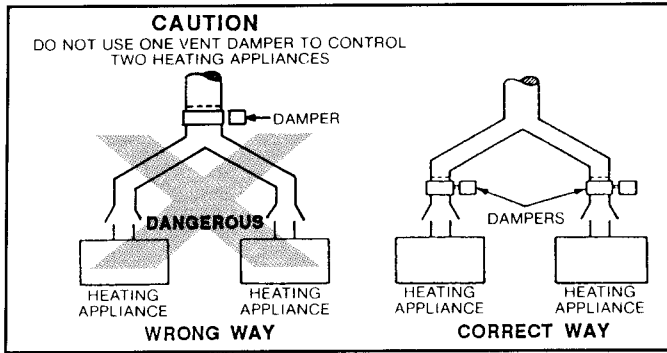

Figure 4.
- 3. This device must be located in a venting system or section of a venting system so that it serves only the single appliance for which it is installed. (See figure 4.)